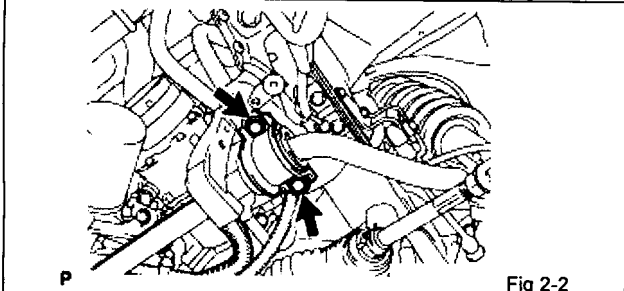

Fig 2-2
- (b) Hold sway bar in position and install the sway bar brackets. (Fig 2-2)